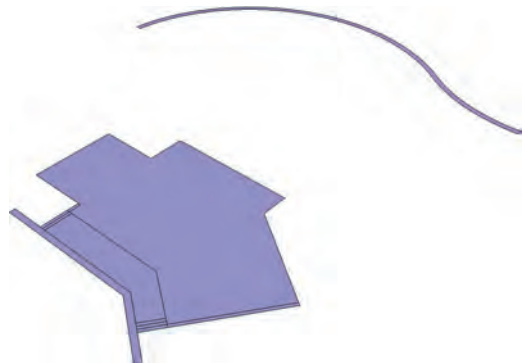

Fig. 15-16: Create faces for the wall, steps, and building plans.
2. Create faces for the wall, steps, and building plans (Fig. 15-16).